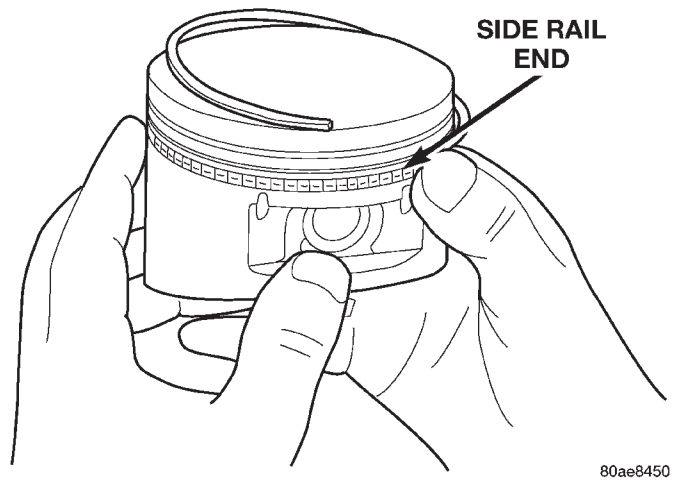
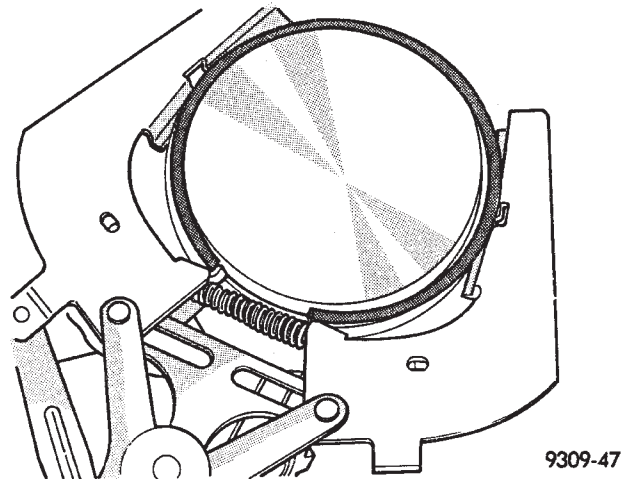

Fig. 95 Side Rail—Installation
Fig. 96 Upper and Intermediate Rings—Installation
- (2) Oil ring expander.
- (3) Upper oil ring side rail.
- (4) Lower oil ring side rail.
- (5) No. 2 Intermediate piston ring.
- (6) No. 1 Upper piston ring.
- (7) Install the side rail by placing one end between the piston ring groove and the expander. Hold end firmly and press down the portion to be installed until side rail is in position. **Do not use a piston ring expander during this step (Fig. 95).**
- (8) Install upper side rail first and then the lower side rail.
- (9) Install No. 2 piston ring and then No. 1 piston ring (Fig. 96).